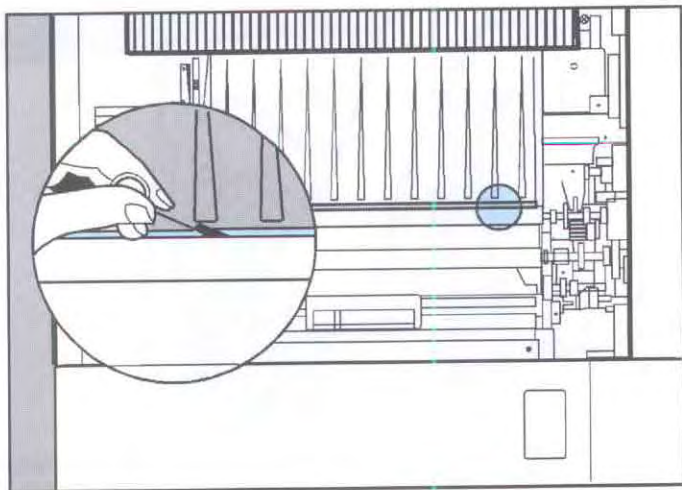

Figure 4-10. Cleaning the Antistatic Teeth
1. Locate the Antistatic Teeth in the long groove beside the Transfer Roller (see Figure 4-10).